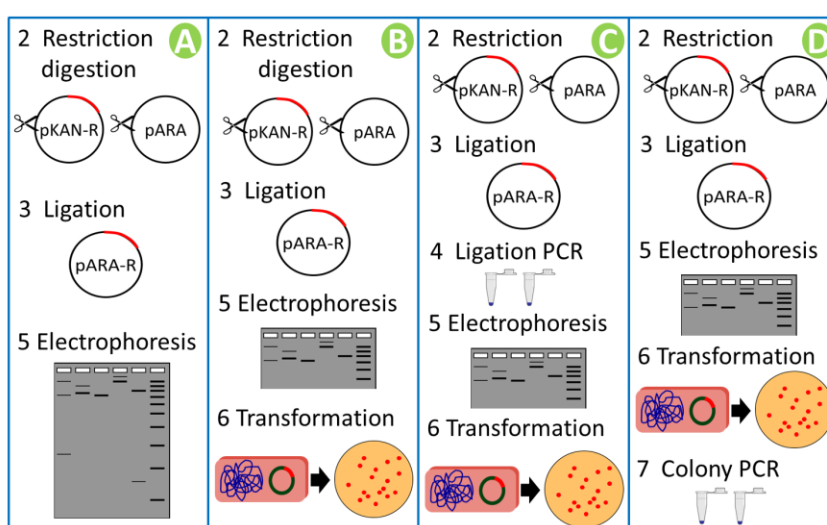

Figure I.1. A summary of the practical work undertaken in sequences A, B, C and D after the initial activities to familiarise students with the equipment.
Sequences A-D involve creating a recombinant plasmid (A), then transforming it into bacteria (B), with the possibility of confirming your results using PCR either after the ligation is complete (C), or after the transformation (D) when phenotype can be correlated with genotype. These possibilities are illustrated in figure I.1 and summarised in table form below.